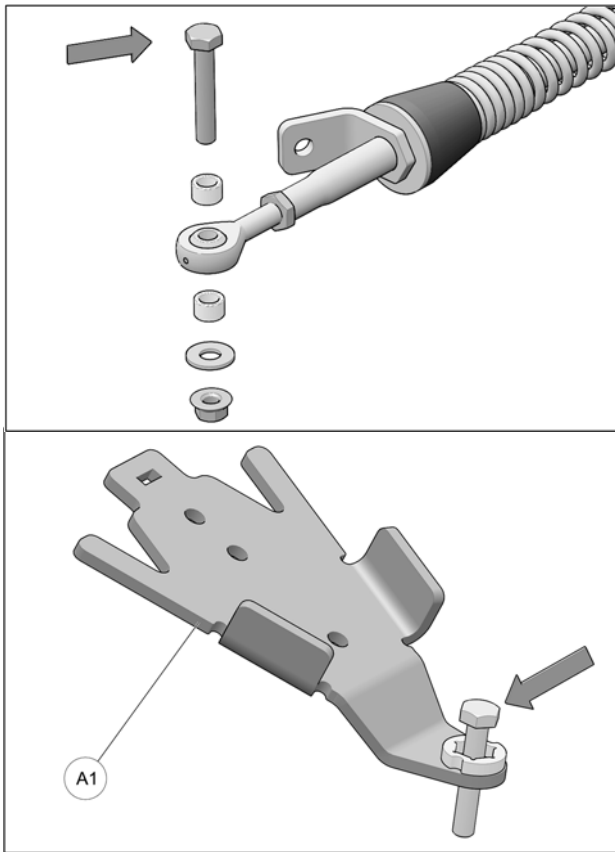

Fig. 8
4. Remove bolt, washer and bushings from front stabilizing rod end and insert bolt in front anchor bracket (A1) as shown in Fig. 8